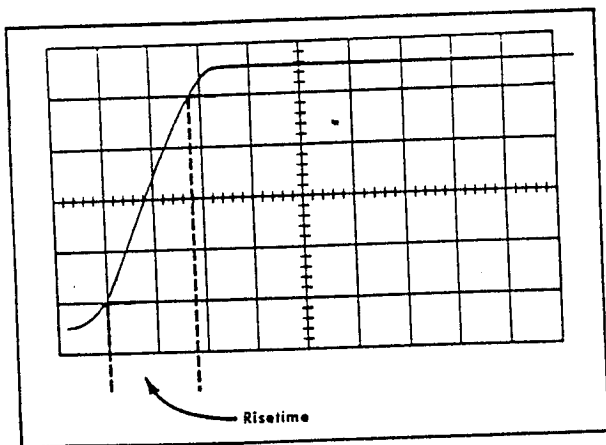

Fig. 5-18. Typical crt display when checking Calibrator risetime. Indicated risetime is 0.36 microsecond.
- s. Check—Risetime between 10% and 90% points on waveform less than 5 divisions (1 microsecond); see Fig. 5-18.